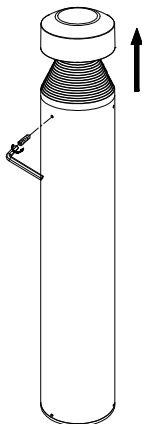

Fig 3
4. Using the hex wrench, loosen the 3 screws on the side of the head, and open the top head. Fig. 3